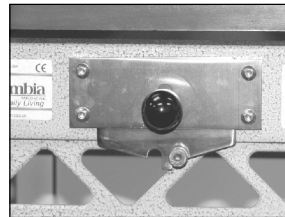

Figure 19
7. When transferring, roll the shuttle base until the latch on the back clicks into the position lock bolt (Fig. 19). There are position lock bolts on rolling base and tub base. These will lock the seating into a secure position and eliminate any side movement and/or rolling during use.